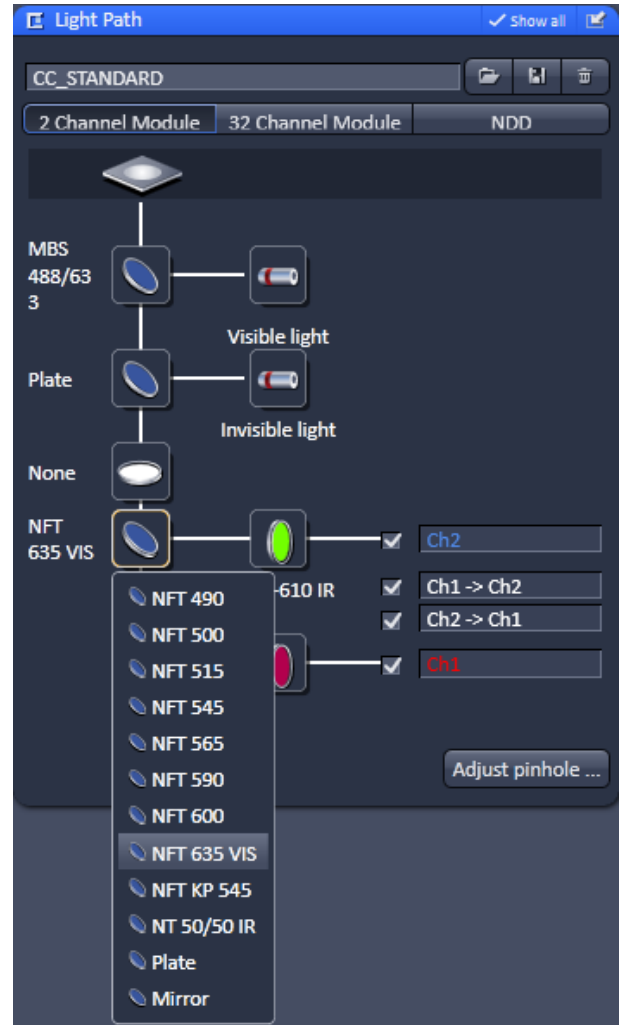

Fig. 234 Light Path panel with SBS filter list
- Click on the SBS icon to open a list of dichroics (Fig. 234).